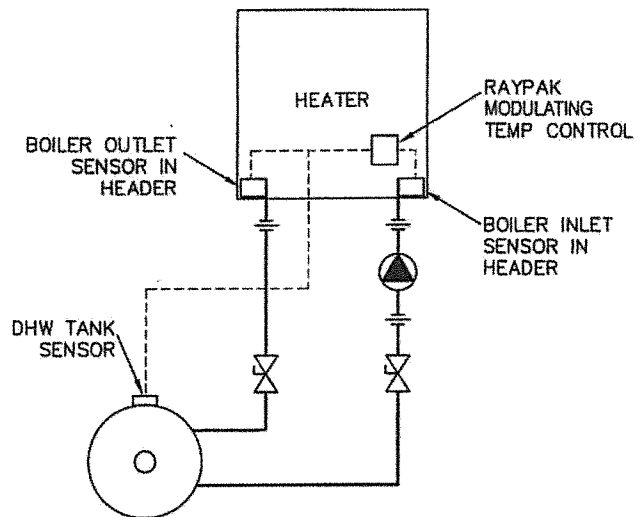

Fig. 29: Mode 3 Dedicated DHW
**Mode 3 – Dedicated DHW operation using UniTemp 80 piping.** A call for heat is determined by the DHW sensor and the DHW boiler target. The heater outlet water is also controlled to the boiler target temperature. See Fig. 29.